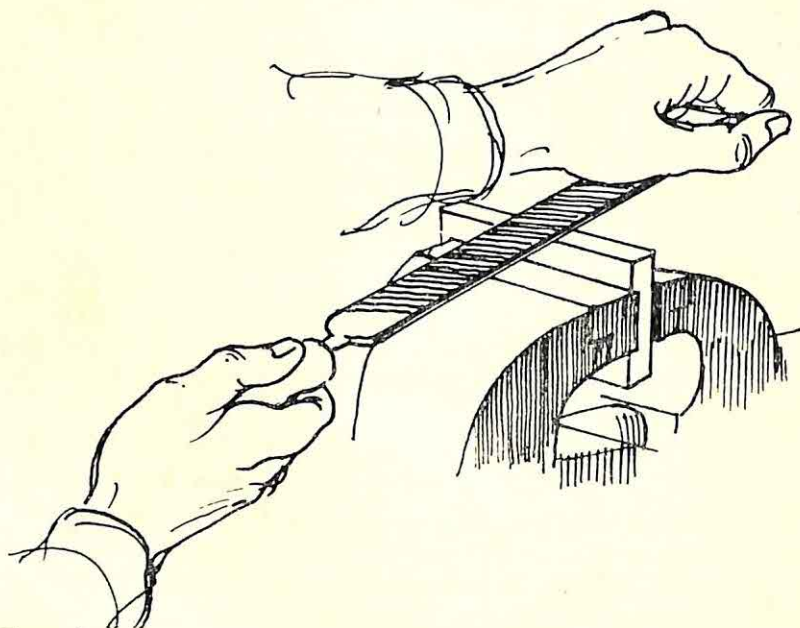

Figure 65
2. Keep the file level but held at a slight angle to the work, and grip in the manner shown in Figure 65.